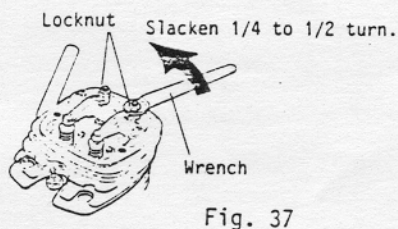

Fig. 37
- 1) Carefully slacken the locknut on one rocker arm with the special offset wrench supplied. (Approx. 1/4 to 1/2 turn. See Fig. 37.)